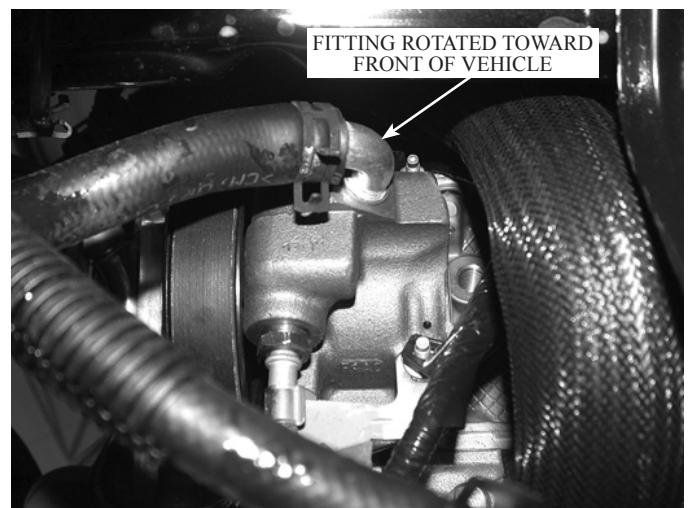

Fig. 8G-d
3. Using the Ø3" x 2.75" reducer sleeve and clamps, loosely attach tube "A" to the supercharger's discharge. (See Fig. 8G-e.)